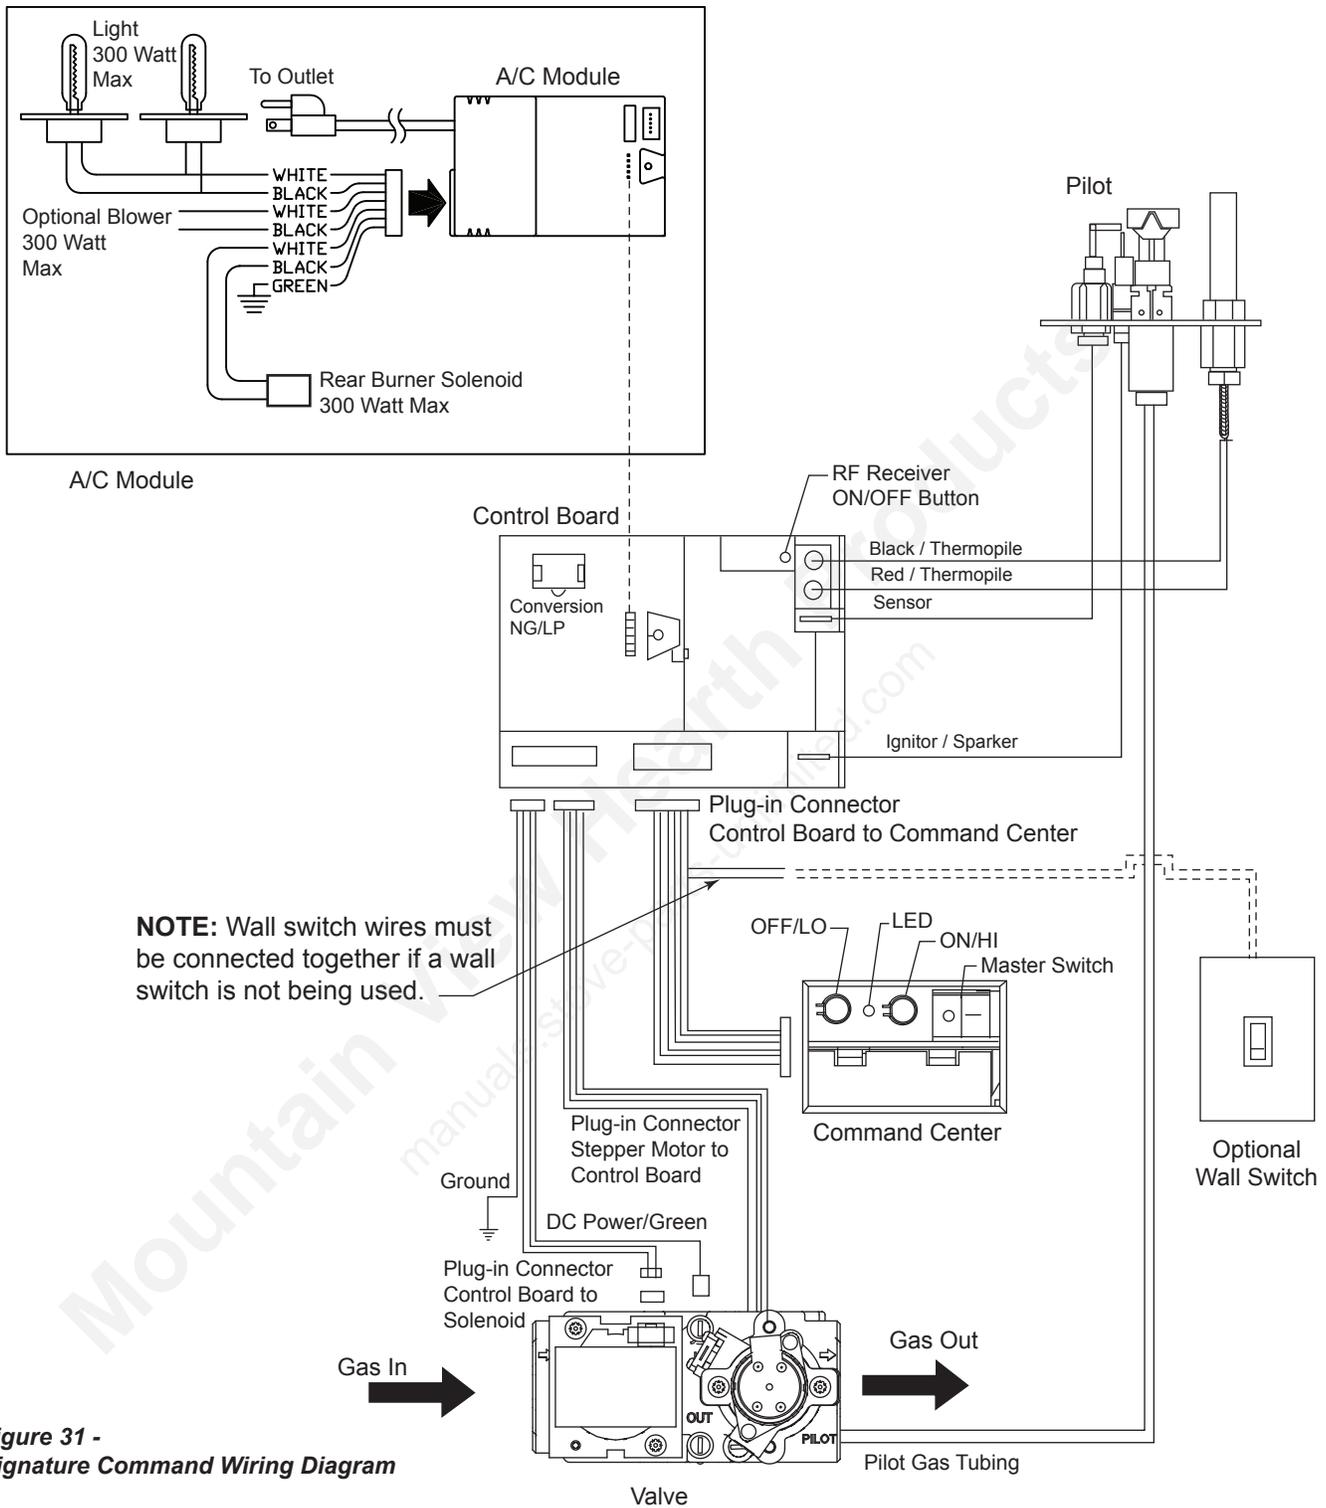

Figure 31 - Signature Command Wiring Diagram
The wall switch wire connection is located off the 2 ft. wire harness from the control box to the command center. *Figure 31*. The connection is labeled “Wall Switch”. Unplug the male and female connectors and connect the two (2) low voltage wires provided. Run wire to desired location on wall. Up to 50 ft. of 18 ga. wire may be used if necessary. Attach wires to wall switch. Mount the wall switch in to junction box and screw on cover.